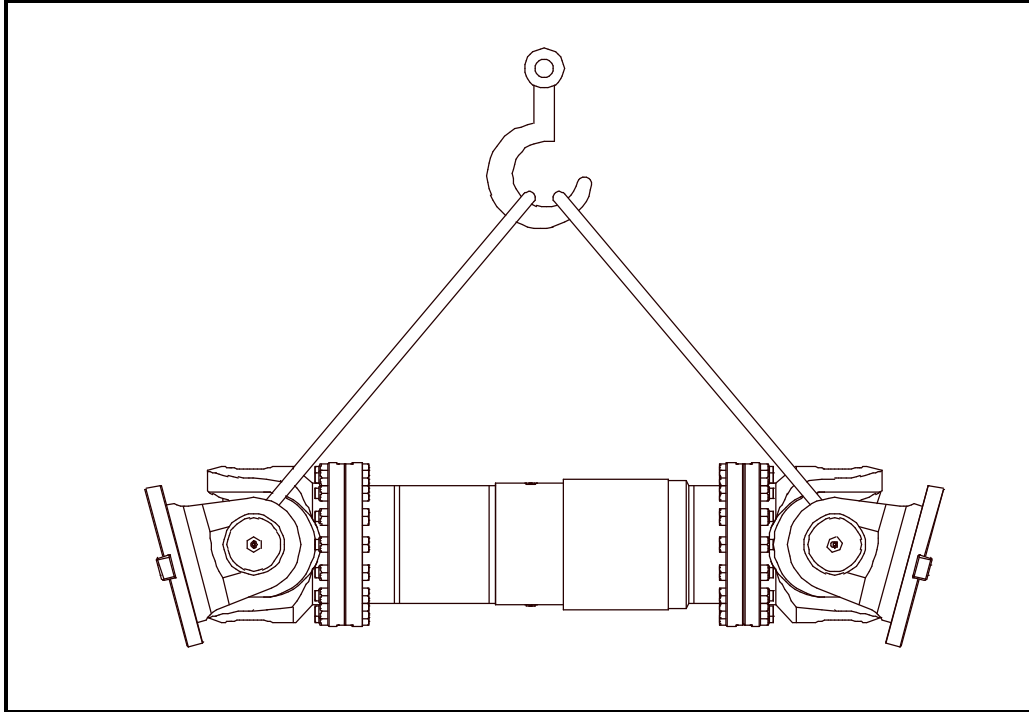
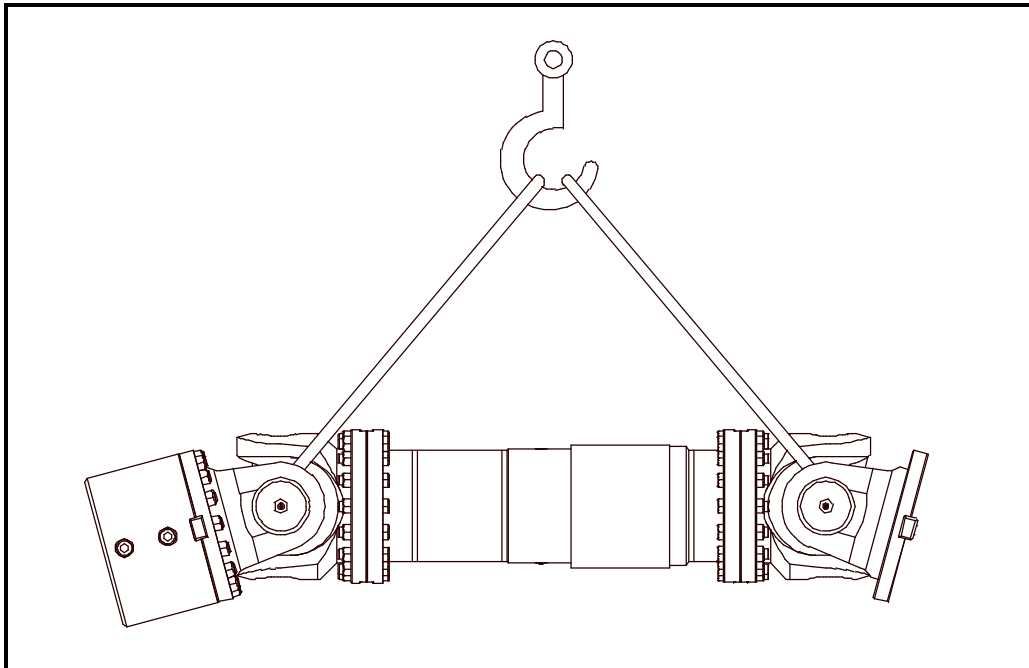

Figure 4.4
Figure 4.5
- 4.6.5 Lift the intermediate shaft assembly with a sling at the inboard yokes as shown in Figure 4.4 or Figure 4.5 if a clearance fit adapter is assembled. This permits the outboard yokes to swivel and will facilitate alignment while mating with the flange adapter(s).
CAUTION: DO NOT PLACE A SLING OR CHAIN AROUND THE INTERMEDIATE SHAFT OR SPLINE COVER WHEN LIFTING OR TRANSPORTING. ALWAYS HANDLE AND TRANSPORT IN A HORIZONTAL POSITION EXCEPT WHEN HANDLING A UNIT DESIGNED FOR VERTICAL APPLICATIONS. SEE FIGURES 4.4 OR 4.5 FOR THE PROPER METHOD TO LIFT THE ASSEMBLY.
- 8.1 If an overhaul is deemed necessary, it is recommended to remove the drive end adapter and driven end adapter. Return the whole intermediate shaft assembly on Types ST and SF per Figures 2.1 through 2.5. For Types FT and FF per Figures 2.6 and 2.7 either the whole intermediate shaft assembly or only the universal joints can be unbolted from the end of the intermediate shaft assembly per customer preference. Support the assembly as shown in Figures 4.4 or 4.5 during disassembly.
CAUTION: DO NOT PLACE A SLING OR CHAIN AROUND THE INTERMEDIATE SHAFT OR SPLINE PROTECTOR WHEN LIFTING OR TRANSPORTING. ALWAYS HANDLE AND TRANSPORT IN A HORIZONTAL POSITION EXCEPT WHEN HANDLING A UNIT DESIGNED FOR VERTICAL APPLICATIONS. SEE FIGURES 4.4 AND 4.5 FOR THE PROPER METHOD TO LIFT THE ASSEMBLY.